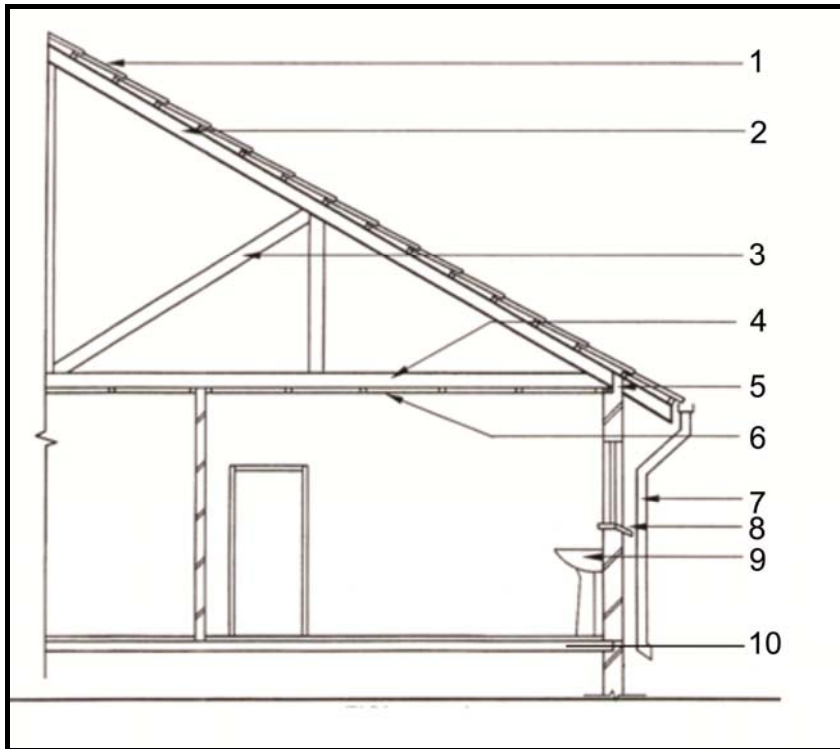

Figure 6.1
6.1 FIGURE 6.1 below shows an incomplete sectional view of a dwelling. Study the sectional view below and answer the questions on the table in the Answer Booklet.